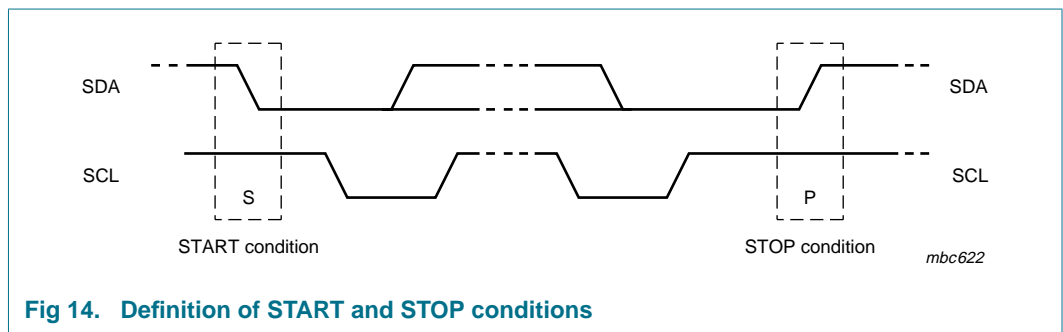

Fig 14. Definition of START and STOP conditions
Both data and clock lines remain HIGH when the bus is not busy. A HIGH-to-LOW change of the data line, while the clock is HIGH, is defined as the START condition (S). A LOW-to-HIGH change of the data line, while the clock is HIGH, is defined as the STOP condition (P). The START and STOP conditions are illustrated in Figure 14.